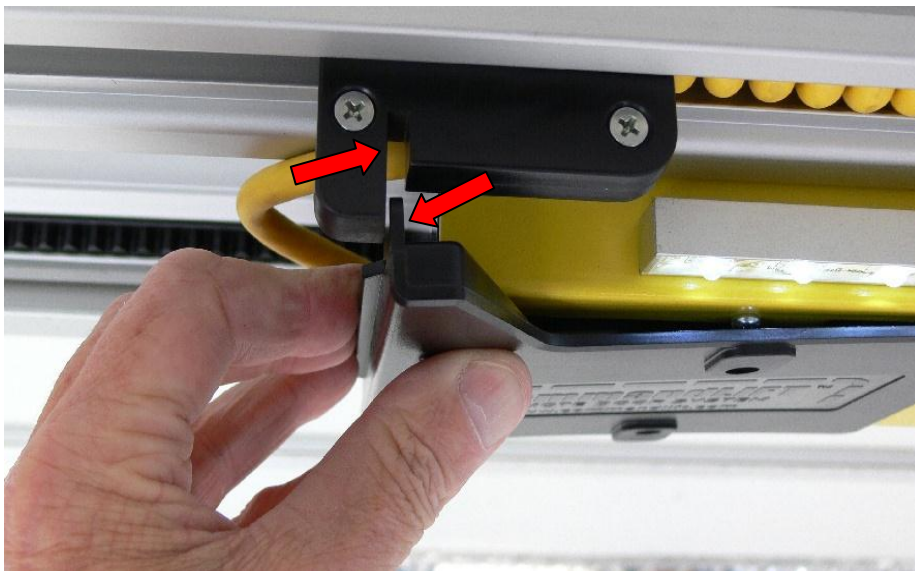

Figure 6 – Replace Cover Plate
3. Replace the black plastic cover on the motor unit (see figure 6, below). Make sure the tab on the cover fits into the slot on the coil cable slider assembly. Replace the 4 mounting screws.